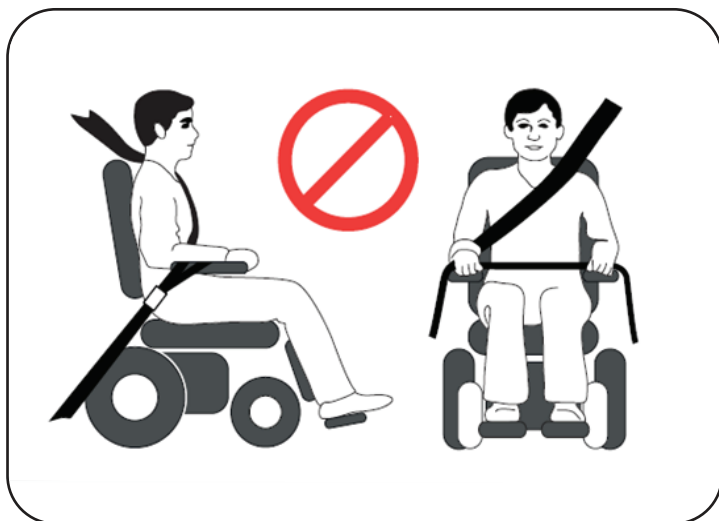

Figure 3
- Belt restraints must not be held away from the body by wheelchair components such as armrests or wheels (see Figure 3).
When using a wheelchair with DAHL Docking system, the floor anchorage point for occupant restraint should be located 10-60 mm outside wheels, on each side (see Figure 3 and 4).